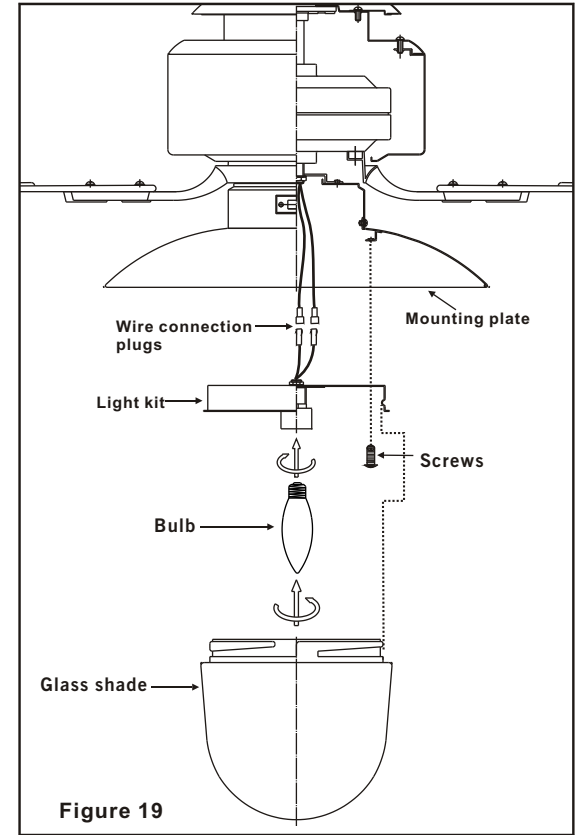

Figure 19
1. Raise and hold the light kit close to the mounting plate and proceed to do the wire connections. Connect the white wire connectors from the light kit and fan, follow the same procedure with the blue and black wire connectors. (Fig. 19)
2. Carefully push all wires back into the mounting plate, then install the light kit onto the mounting plate with 3 screws provided. Be sure to tighten all screws. (Fig. 19)
4. Raise glass shade up against the light kit and secure it to fan by turning glass clockwise until snug. **DO NOT OVERTIGHTEN.** (Fig. 19)